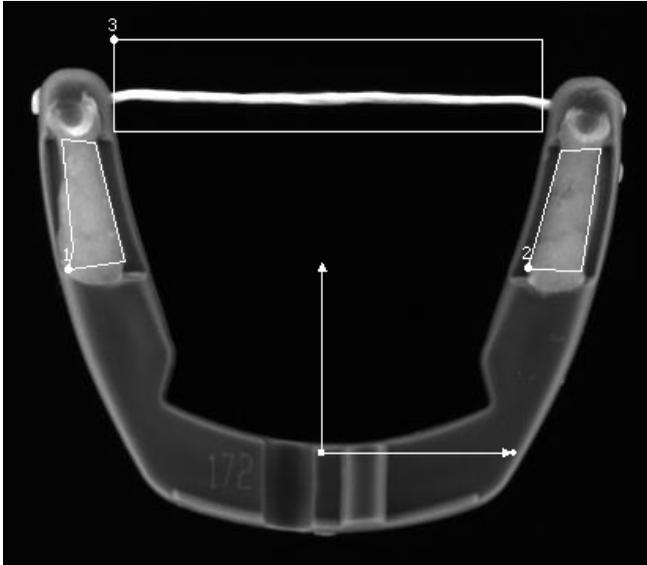

Figure 5-2. Defining Regions in which to Check for Presence
- Draw three regions of interest that enclose the wire and the two sections of toothpaste in the dental floss holder, as shown in Figure 5-2. Click and drag repeatedly to select a polygon region. Double-click to complete the polygon.